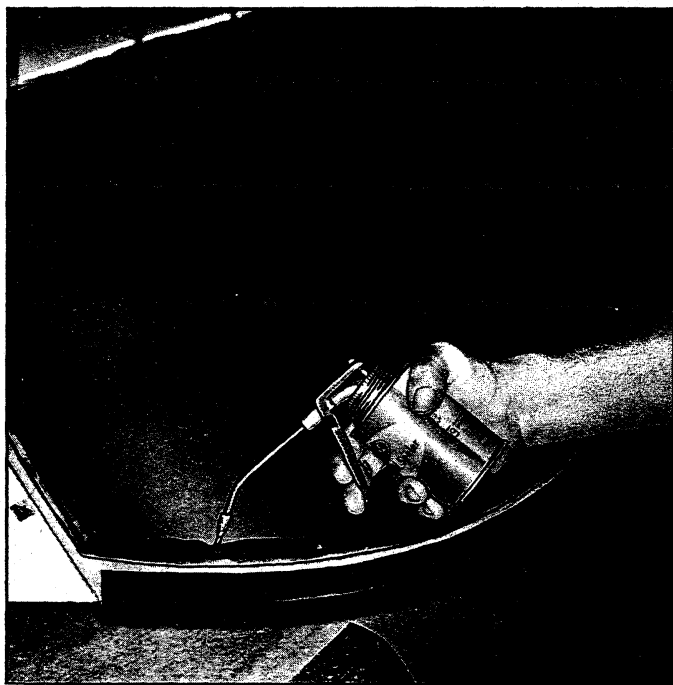

Fig. 92—Applying Cement to Window
11. Inject a moderate quantity of cement (3M-6699B or its equivalent) between window and weatherstrip as shown in Figure 92.